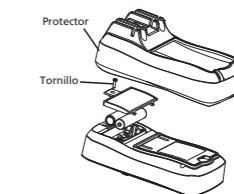
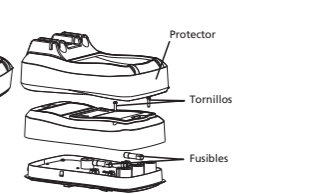

Fig. 4a
Fig. 4b
2. REPLACEMENTS (see Fig. 4a, Fig. 4b)